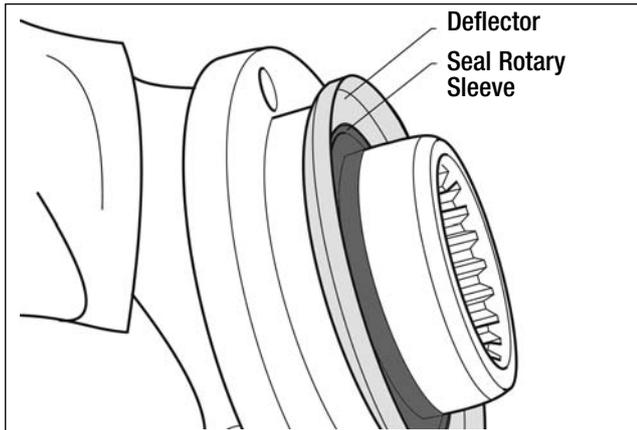

Fig. 4.5
- 7. Inspect the deflector for damage. If necessary replace the part. (Fig. 4.5)
- 8. Remove the rotary seal sleeve from the flange. (Fig. 4.5)